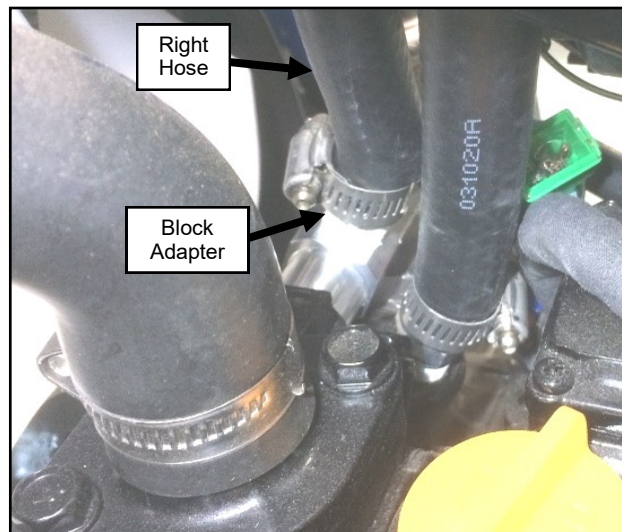

Figure 17.11 (Heater Hose Install)
- 17.11** Install block adapter onto the top of the sending unit adaptor. Next, install right side 5/8" heater hose and 1" hose clamp onto the recently installed block adapter. Re-connect temp. sensor wire to temp. sensor. See figure 17.11.
- 17.12** Install left 5/8" heater hose (cut as needed) and 1" hose clamp onto the other block adapter. See figure 17.11.